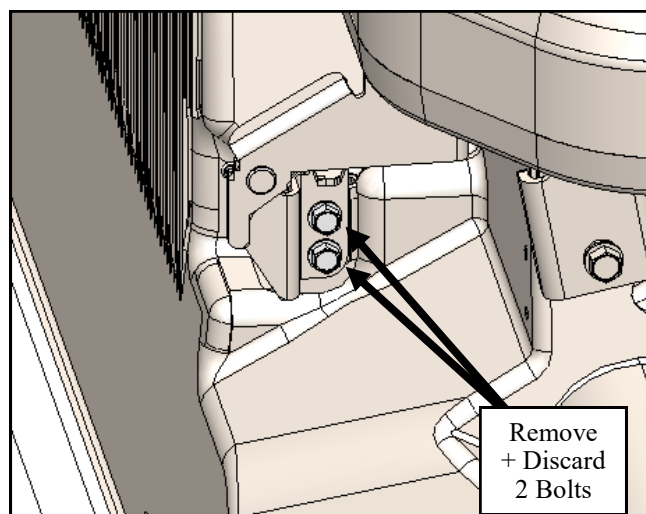

Fig. 3.2 (Remove Base Pivot Bracket OE Bolts)
- 3.2 Remove and discard the two bolts securing the seat base pivot bracket. See Fig. 3.2.